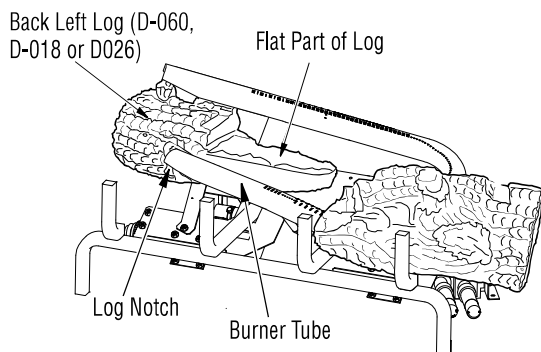

Figure 23 - Installing Back Left Log
2. Find the back left log (LMF24GTA/B or LMF24MOA/B models: D-060, LMF30GTA/B or LMF30MOA/B models: D-018, LMF36GTA/B or LMF36MOA/B models: D-026). See **Figures 23, 23A, and 23B**. **Figure 23A** shows how the log must fit against the end of the burner. **Figure 23B** shows how the notch in log fits against the vertical portion of the burner tube. Place this log on the base assembly by inserting it from the left side as shown in **Figure 23**. You will need to twist the log slightly to get it to fit against the burners properly. It will rest even with the back edge of the pan.